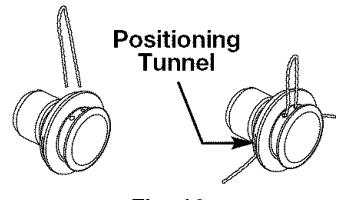

Fig. 16
- While firmly holding the attachment, push it straight into the coupler until the release button (Fig. 16) snaps into the primary hole (Fig. 16). The primary hole is on the opposite side of the coupler from the knob (Fig. 16). Align the release button with the Guide Recess (Fig. 16) to help installation.
- Press and hold the release button (Fig. 16).
4. Insert both ends of your line through the proper holes in the side of the cutting head (Fig. 16).